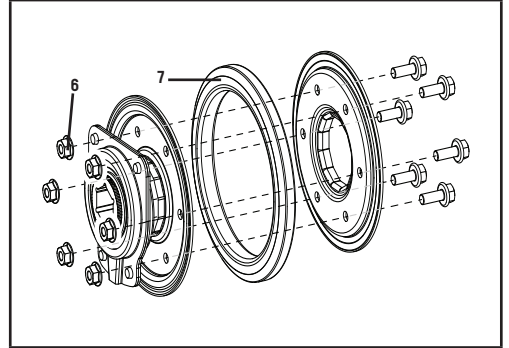

Figure 51
- Unscrew the six M6 × 16 bolts (6) of the friction disc assembly to discard the worn friction wheel rubber ring (7) and replace with a new one (Fig. 51).